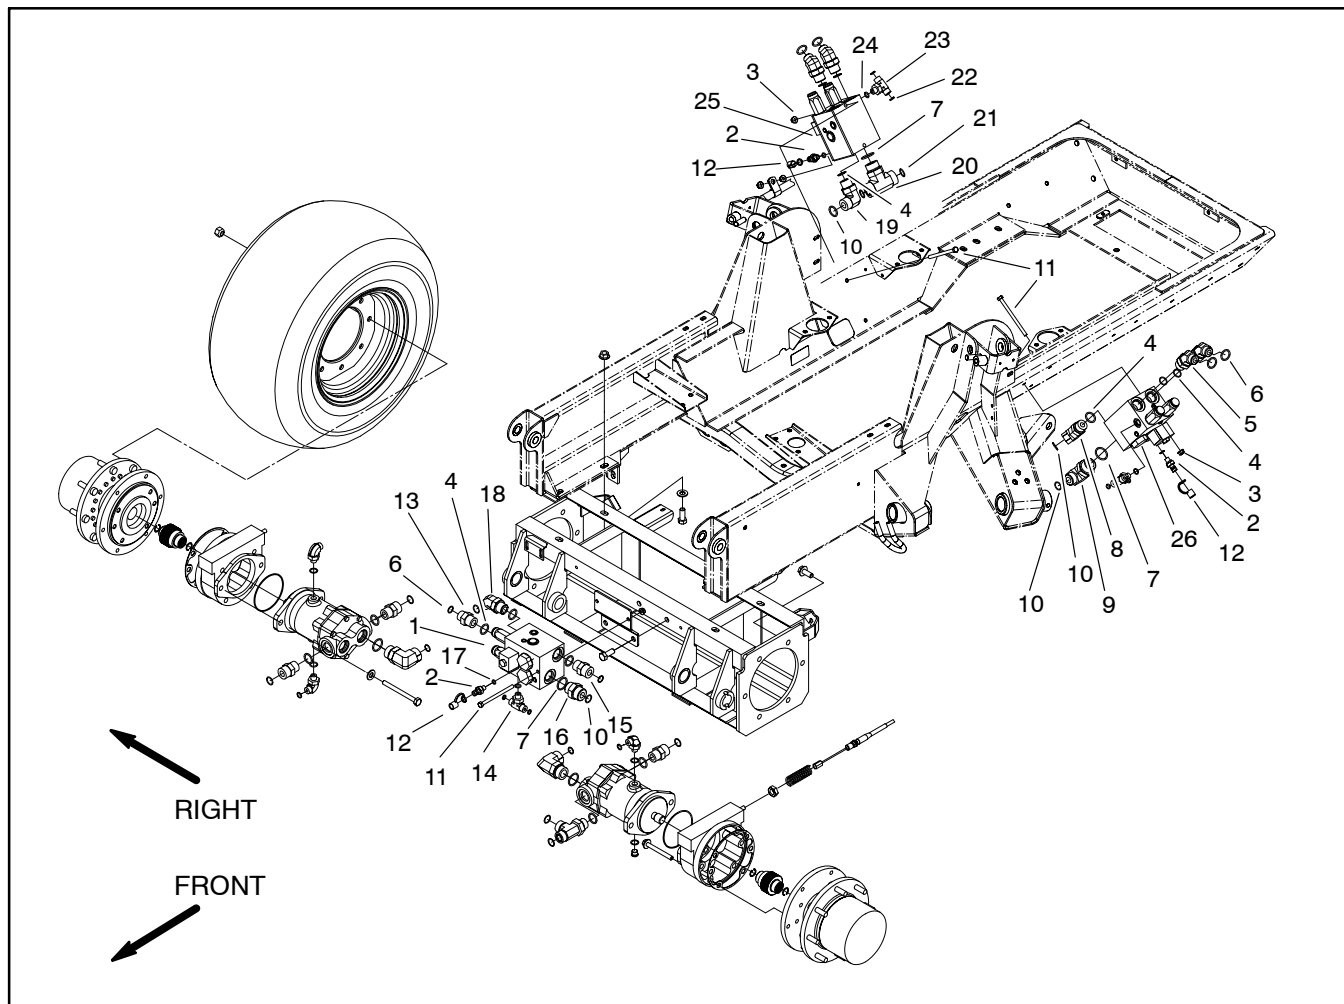

Figure 50
Removal (Fig. 50)
4. Remove hydraulic manifold from the frame using Figure 50 as guide.
Installation (Fig. 50)
1. Install hydraulic manifold to the frame using Figure 50 as guide.